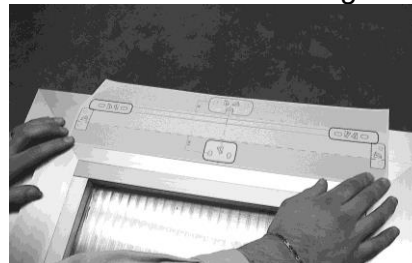

Figure 9
- C. Attach the template to the window frame (fixed part) and line axis up with the centre line "X" traced earlier (Fig. 9).